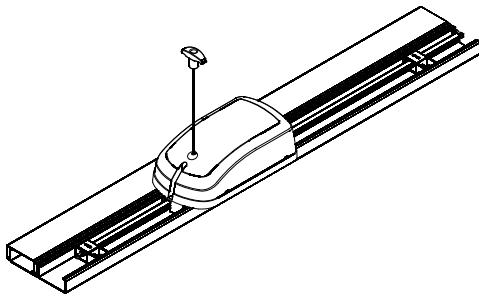

Fig. 1
- On a clean smooth surface open the packing carton and expose the AGDO components. (Fig.1)